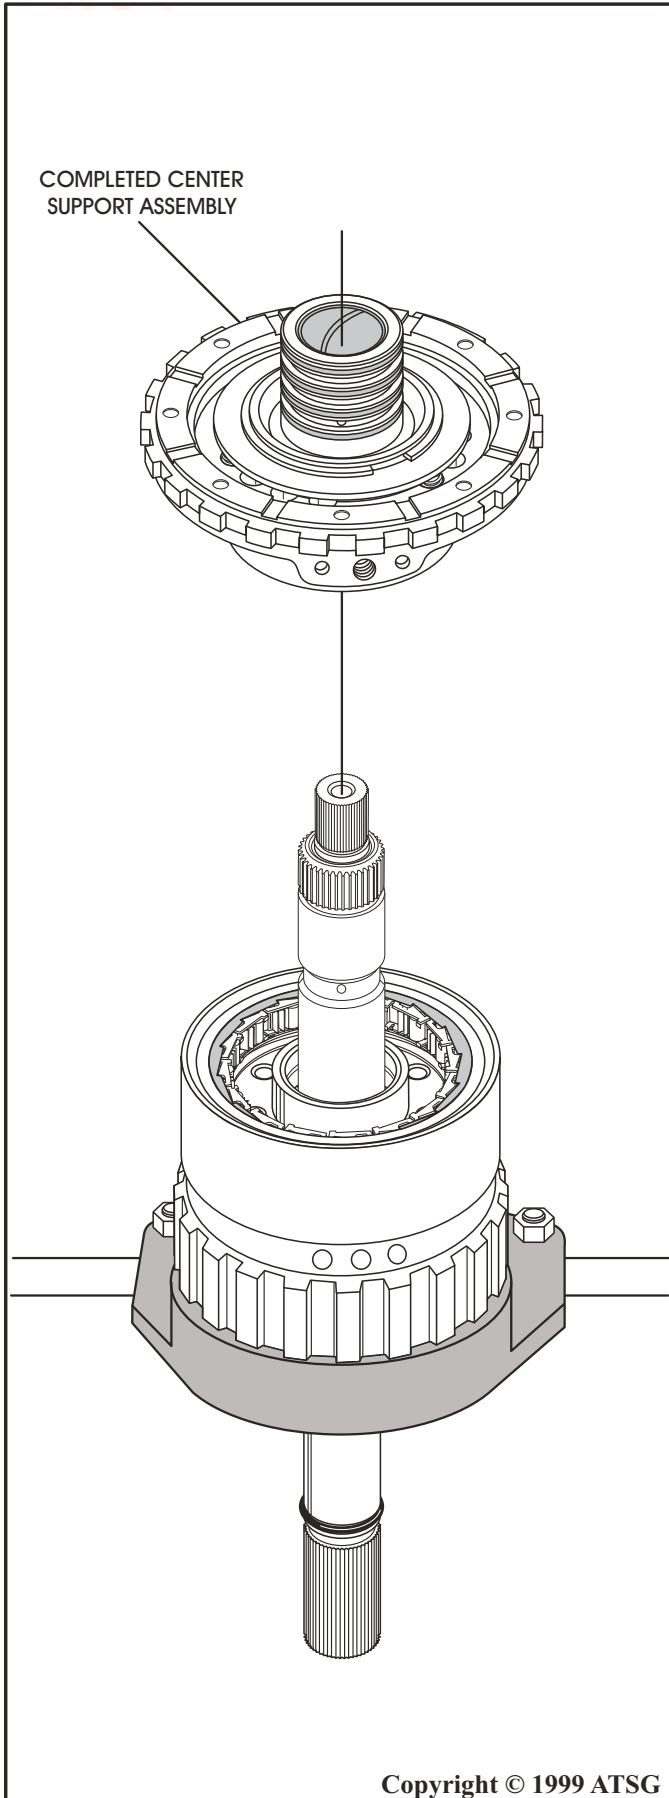

Figure 73
46. Install the completed center support assembly by rotating clockwise and turning the sun gear shaft, until the center support is fully seated. Refer to Figure 73.